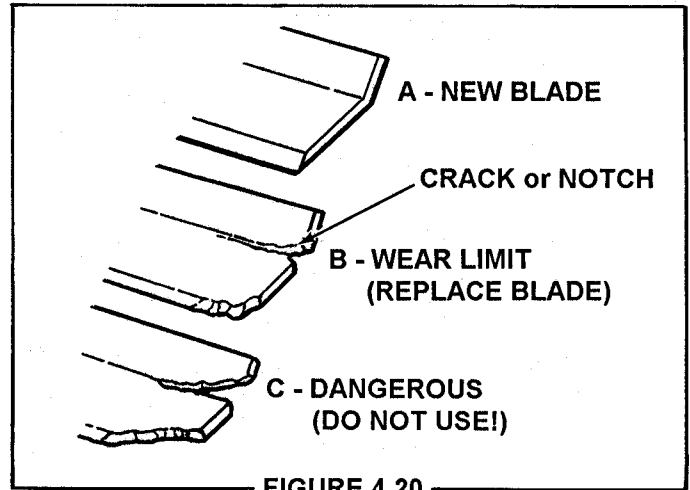

FIGURE 4.20
1. Inspect blade frequently for signs of excessive wear or damage. See Figure 4.20.
Never use a cutting blade that shows signs of excessive wear or damage on the Rear Engine Rider. Refer to Figure 4.20.
3. Inspect condition of blade. Refer to Figure 4.20.